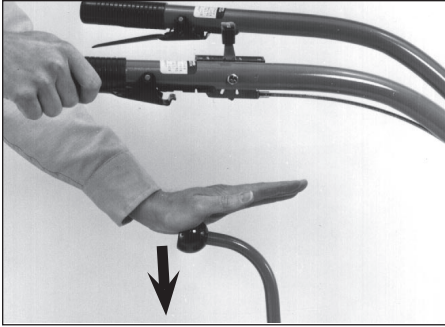

Figure 4-3: Moving tiller forward: squeeze one Forward Interlock Lever and then move Wheels/Tines/PTO Drive Lever down to FORWARD.
5. To move the tiller forward and engage the tines, squeeze and hold either Forward Interlock Lever (Figure 4-3) against the handlebar grip, then move the Wheels/Tines/PTO Drive Lever down to FORWARD position.
Forward Interlock Levers against the handlebar grip while moving the Wheels/ Tines/ PTO Drive Lever down to FORWARD (Figure 4-3). As the tiller moves forward, release the Forward Interlock Lever briefly. The engine should start to stall out if the interlock system is working properly. If it does start to stall, quickly squeeze the lever up against the handlebar grip, and then return the Wheels/ Tines/ PTO Drive Lever to NEUTRAL. Repeat this test to check that the engine begins to stall out when the other Forward Interlock Lever is released.